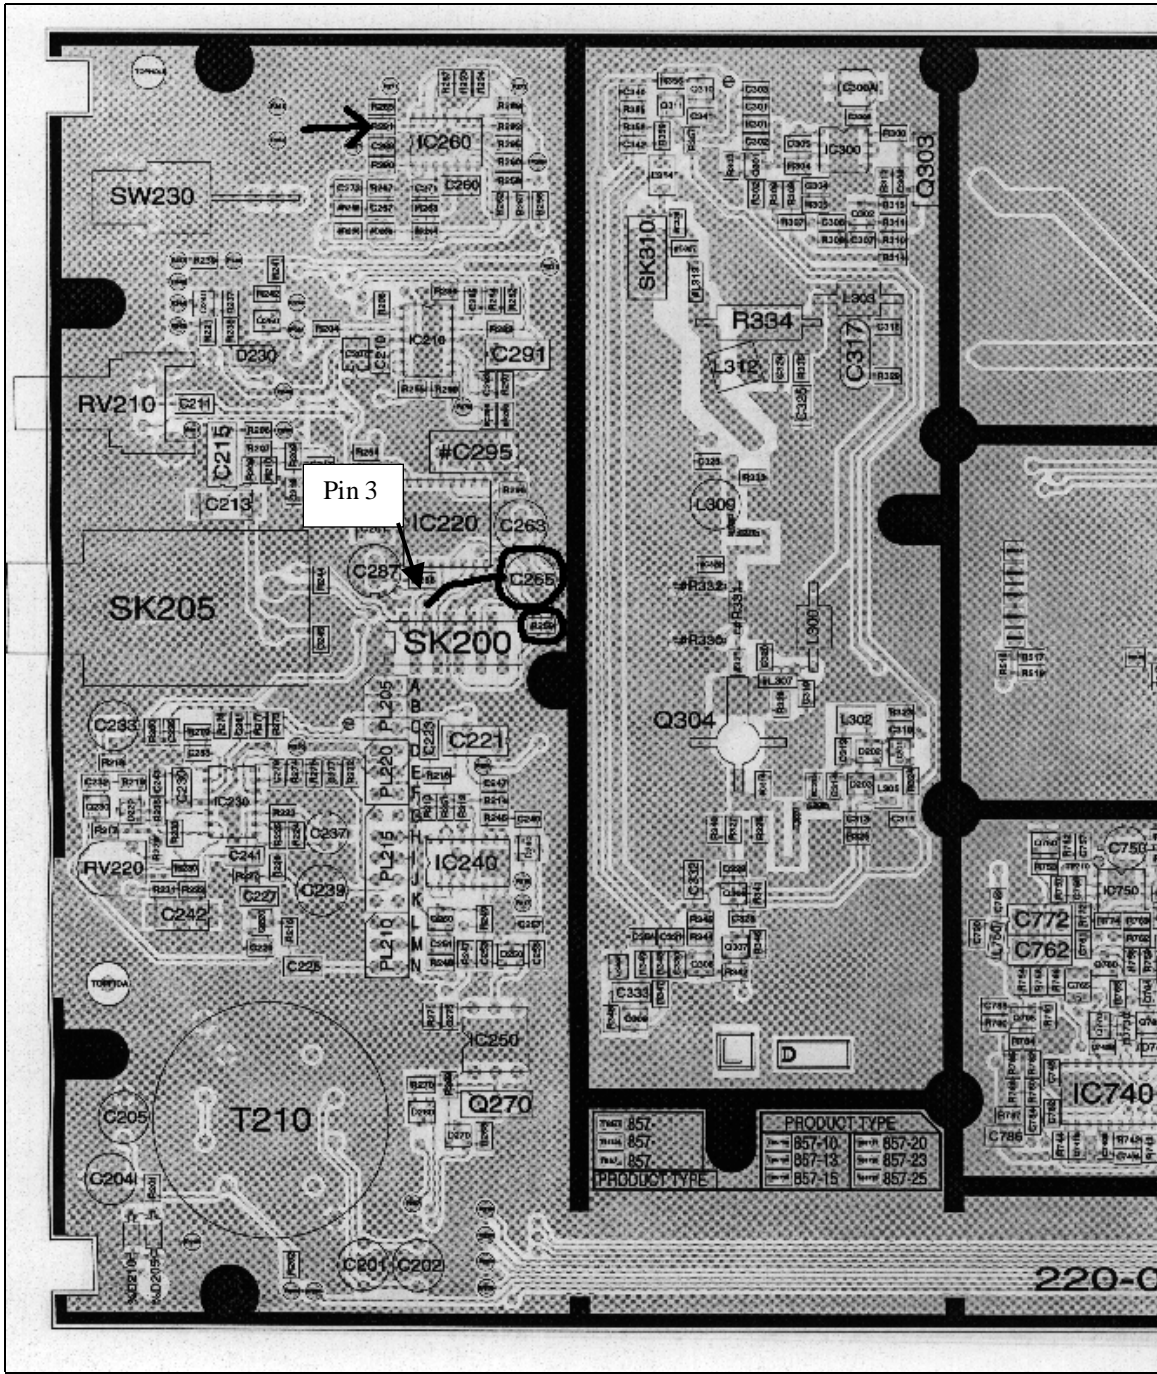

Figure 3 - T857 Exciter PCB (rev 220-01398-03A), Top Side 1/1
7. Remove R291 (0 ohm res.), R259 (22K res.) and C265 (4u7 cap) (T-857 Audio Processor section. Refer to Figure 3 page 6
8. Solder a short wire (gauge 26, 0.5" long) from feedthrough connected to SK200 pin 3 to C265 negative side pad. Refer to Figure 3 page 6